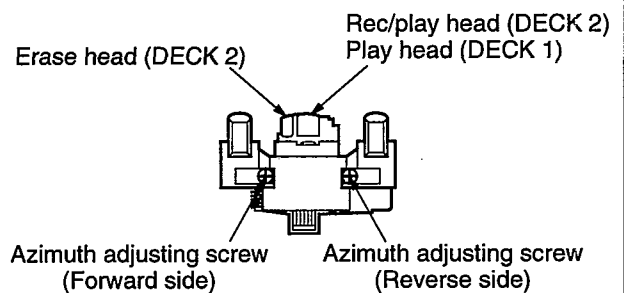

Fig. 7
3. Playback the azimuth adjustment portion (8 kHz, -20 dB) of test tape (QZZCFM). Adjust the azimuth adjusting screw until the outputs of the L/R-ch are maximized. (Refer to Fig. 7) Make sure that the difference in the peak level between the left and right channels does not exceed 0.5 dB.